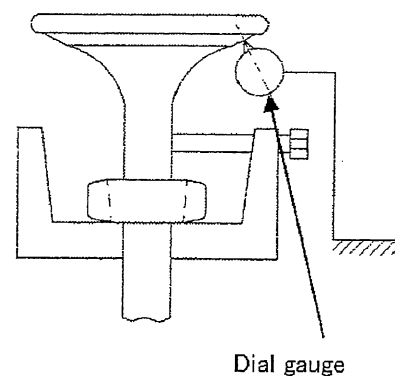

Fig. 4
- Loosen three set bolts(5) that each bolt does not touch the rotation wing, until the each tip is aligned with the internal diameter.
- Set a dial gauge to the seat surface of valve spindle. (As shown in Fig.4)